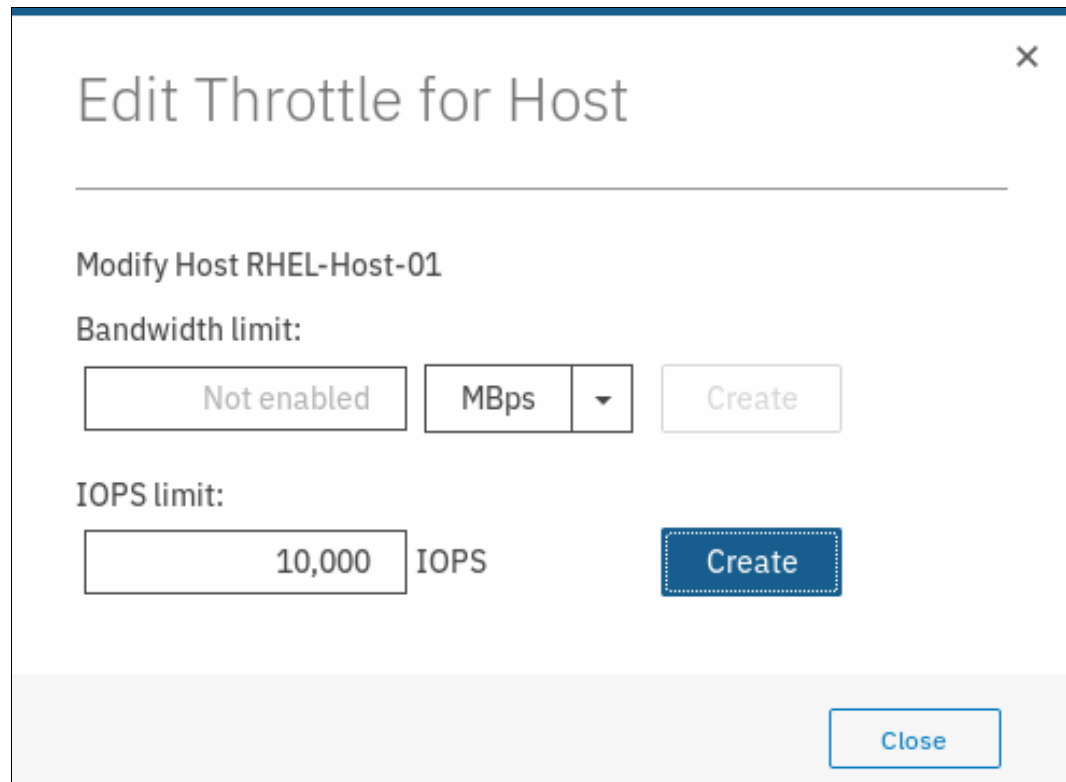

Figure 5-108 Setting IOPS throttle
3. Enter the wanted type of I/O throttle (IOPS or Bandwidth). In our example, we set up an IOPS throttle by entering the **IOPS limit**, as shown in Figure 5-108.